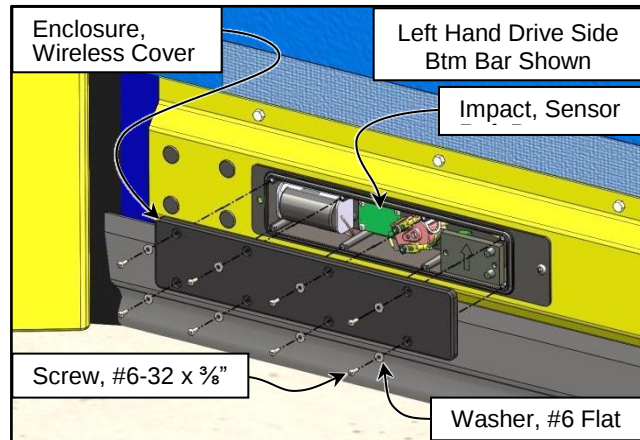

Figure 44
3. Remove the wireless enclosure cover from the bottom bar. Carefully pull the cover away from the enclosure as the antenna transmitter is secured to this and wires are routed to it also. (See Figure 44)
4. Identify the items contained in the bottom bar wireless control assembly and specifically the impact sensor. (See Figure 44)
3. Remove the wireless enclosure cover from the bottom bar. Carefully pull the cover away from the enclosure as the antenna transmitter is secured to this and wires are routed to it. (See Figure 44)
IMPORTANT: The 8 to 10 in. mounting height for each counterweight, as indicated in Figure 44, is adequate for most Turbo-Seal Insulated doors. However, for extra-wide or -short doors, the counterweights may have to be adjusted closer to the bottom of the side column. Also, the guides on the counterweight must be properly positioned in the side column.